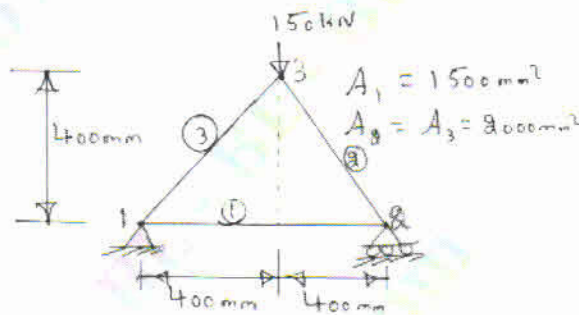

Fig.Q7
- 7 Consider the three bar truss as shown in Fig.Q7. It is given that  $E = 2 \times 10^5 \text{ MPa}$ . Determine the nodal displacement and stress in each member. Find the support reaction also.